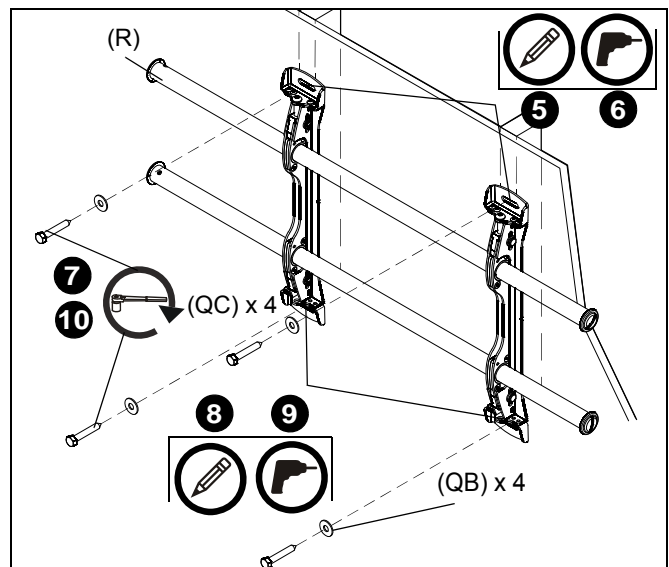

Figure 3
5. Using a level, mark the wall on each stud to attach the mount through the upper mounting slots. (See Figure 3)
7. Use two 5/16 x 2-1/2" lag bolts (QC) and two 5/16" flat washers (QB) to attach top of mount (R) to wall. (See Figure 3)
8. Mark the attachment points for the lower mounting slots, making sure the attachment points are located on the studs. (See Figure 3)
9. Drill 7/32" pilot holes at markings for lower mounting holes. (See Figure 3)
10. Use two 5/16 x 2-1/2" lag bolts (QC) and two 5/16" flat washers (QB) to attach the mount to the wall through the lower mounting holes. (See Figure 3)